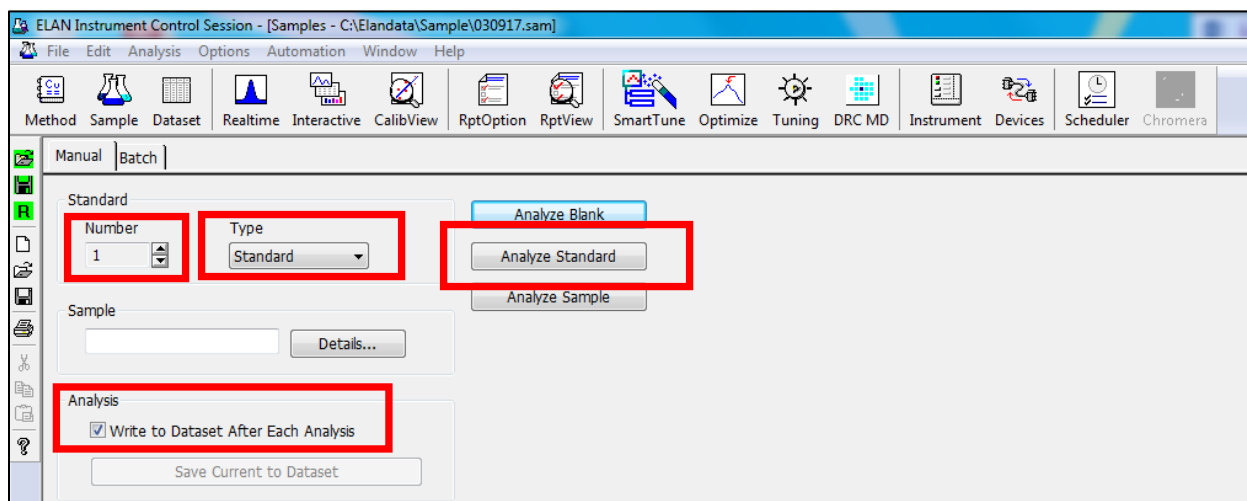

Figure 16: Setting up standard curve analysis.
- i. As seen highlighted in **Figure 16**: